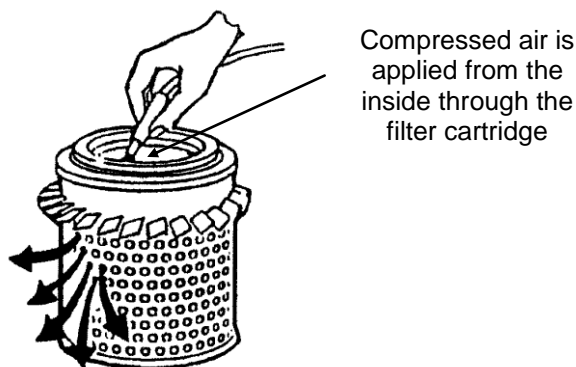

Fig 24
- Hold the cartridge away from the engine and blow it out with compressed air (Fig. 24).